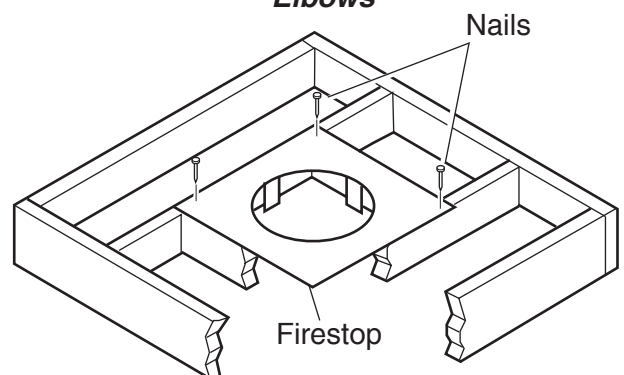
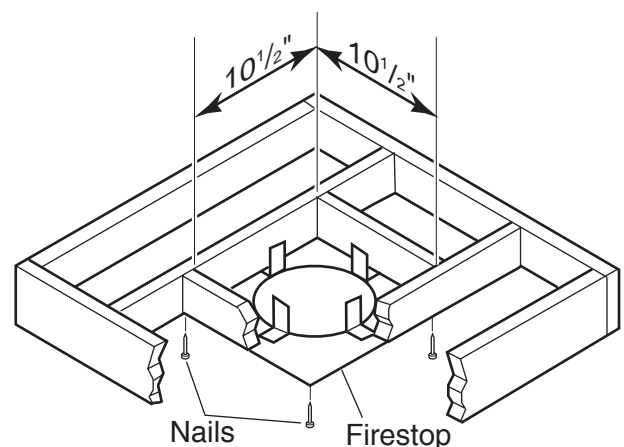

Figure 34 - If area above is a room, install firestop above framed hole as shown
Figure 35 - If area above is not a room, install firestop below framed hole as shown
1. Cut a $10\frac{1}{2}$ " (267mm) square hole in the ceiling using the locating hole as a center point. The opening should be framed to $10\frac{1}{2}$ "x $10\frac{1}{2}$ " (267mm x 267mm) inside dimensions as shown in Figure 34 using framing lumber the same size as the ceiling joist. If the area above the ceiling is an insulated ceiling or a room, nail firestop from the top side. This prevents loose insulation from falling into the required clearance space. See Figure 34. Otherwise, install firestop below the framed hole. The firestop should be installed with no less than three nails per side. See Figure 35.